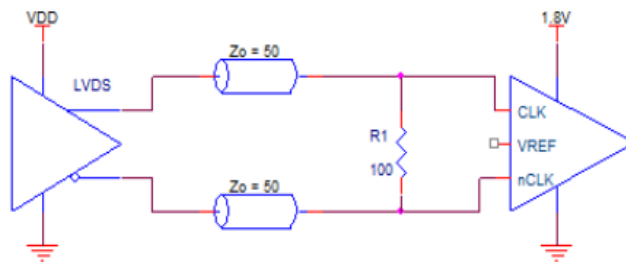
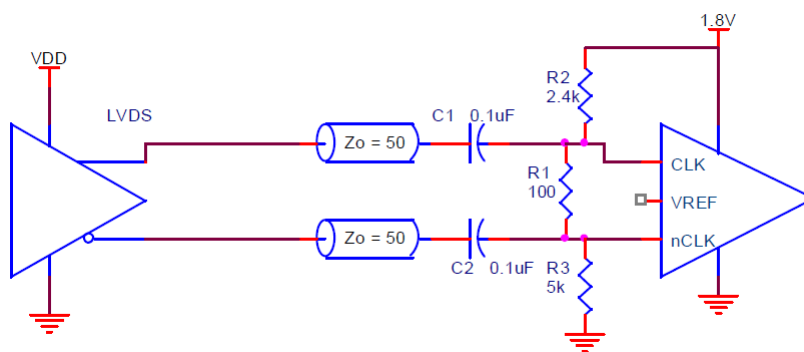
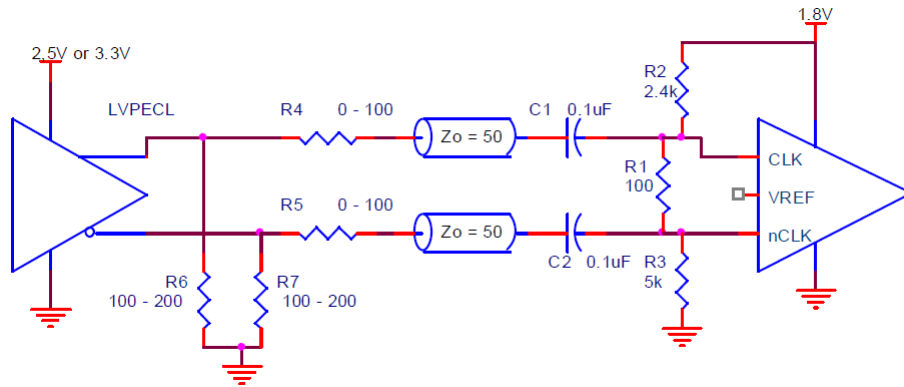

Figure 3. Differential Input Driven by an LVDS Driver – DC Coupling
Figure 4. Differential Input Driven by an LVDS Driver – AC Coupling
Figure 5. Differential Input Driven by an LVPECL Driver – AC Coupling
- VREF[A:B] specification is applicable to the AC-coupled input interfaces shown in Figure 4 and Figure 5.
The CLK /nCLK accepts LVDS, LVPECL and other differential signals. The differential input signal must meet both the V_{PP} and V_{CMR} input requirements. Figure 3 to Figure 5 show interface examples for the CLK /nCLK input driven by the most common driver types. The input interfaces suggested here are examples only. If the driver is from another vendor, use their termination recommendation. Please consult with the vendor of the driver component to confirm the driver termination requirements.